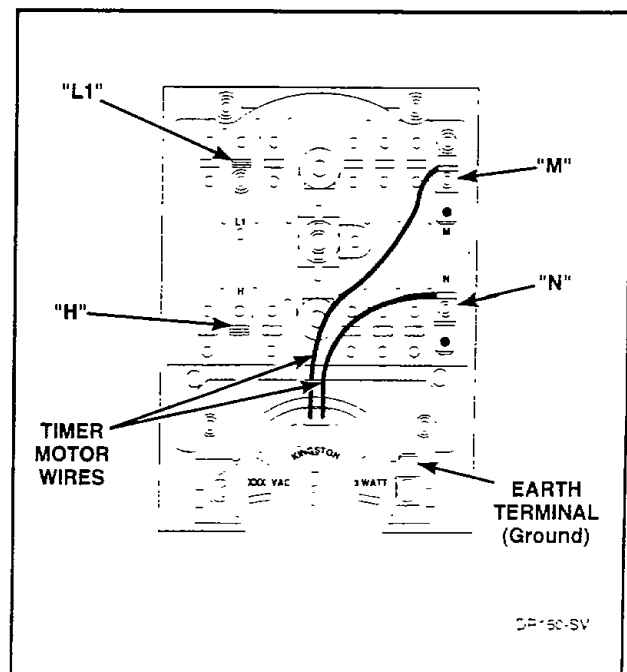

Figure 52
- Disconnect wires from timer, *Figure 52*, except timer motor wires.